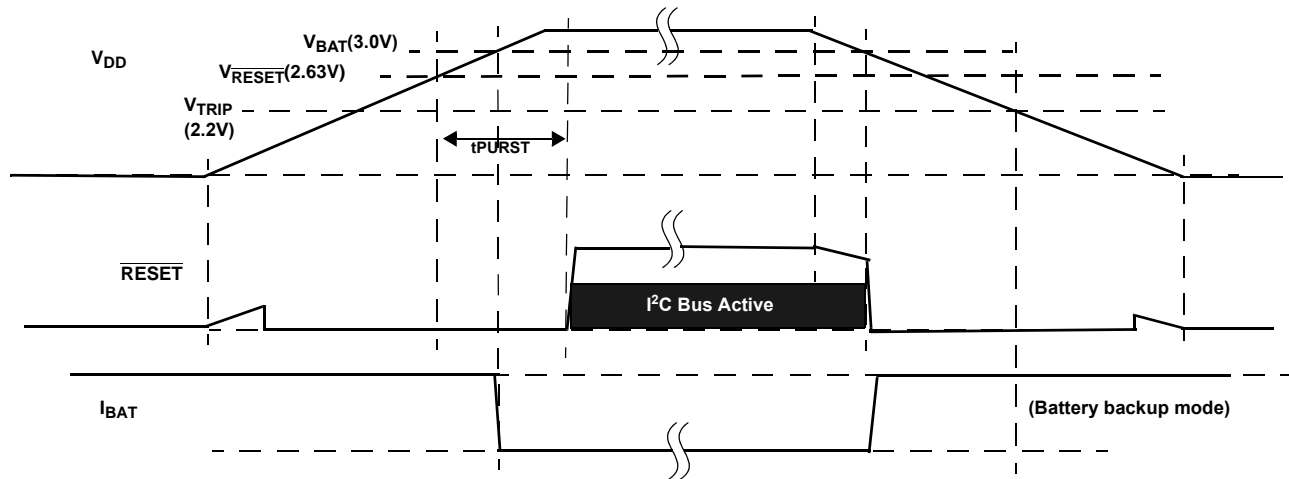

FIGURE 30. RESET OPERATION IN MODE D
- Mode D - In this mode the selection bits indicate switchover to battery backup at VDD < VBAT, and no I2C communications in battery backup. This mode is unique in that there is I2C communication as long as VDD is higher than VRESET or VBAT, whichever is greater. This mode is the safest for guaranteeing I2C communications only when there is a Valid VDD. See Figure 30.